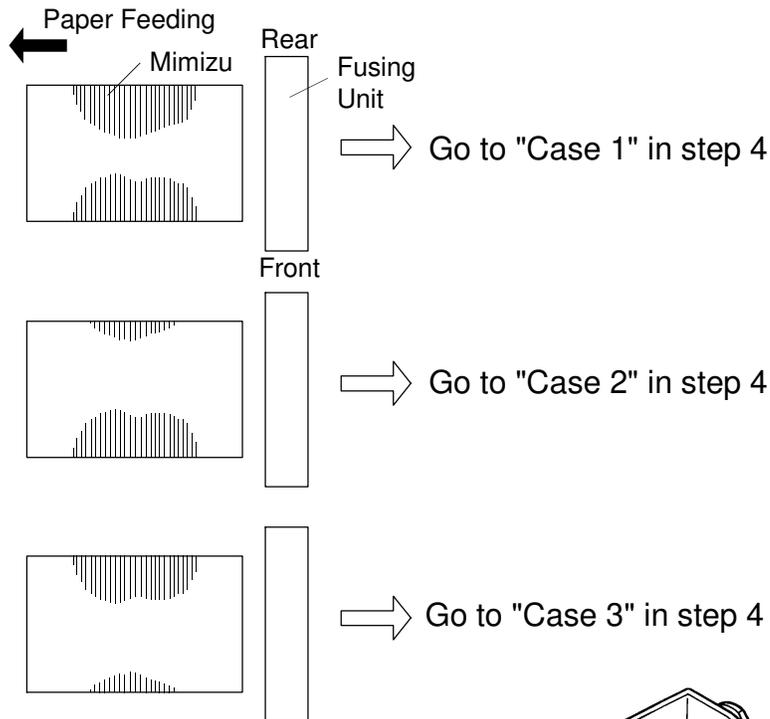

Figure 2
4. Confirm the location and size of the "Mimizu" patterns on the copy image. Then do the appropriate procedure (Case 1, Case 2, or Case 3). See Figure 2.